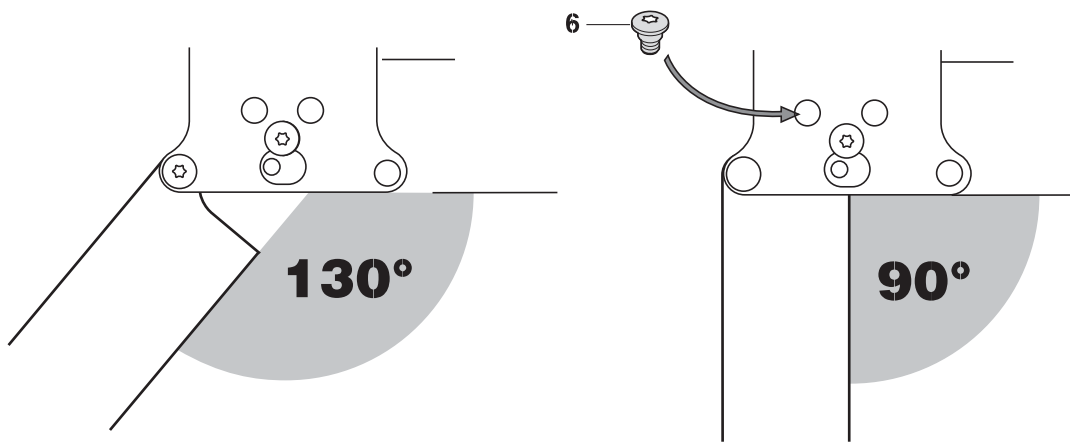

Figure 14
Door Opening Angle - Figures 14, 15
- **Insert** attached screw (6) in the **upper** hinge as shown in **Figure 14**.